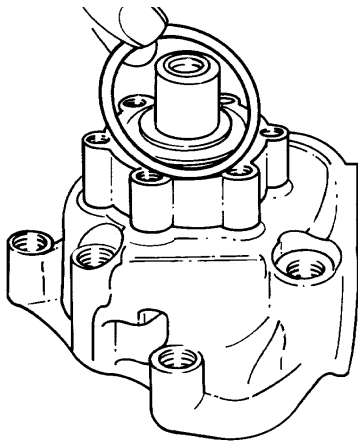

Figure 83 - O-Ring - Removal
- e. Remove the O-ring from the coolant pump housing (Fig 83).